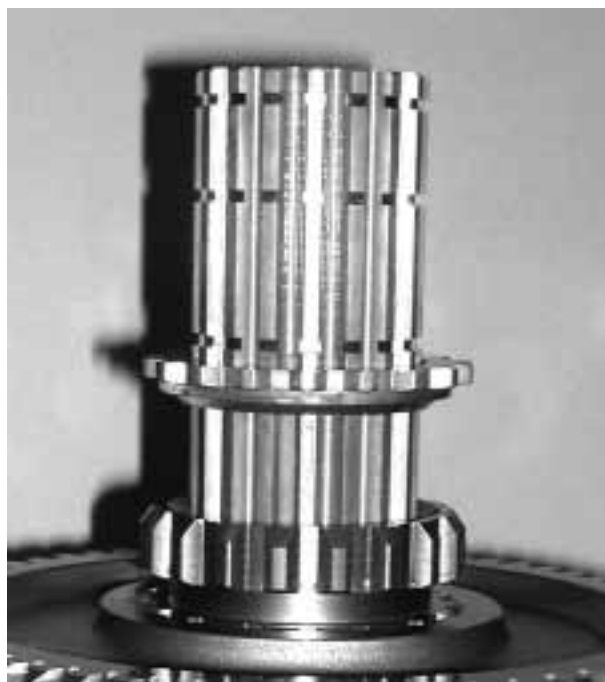

Figure 63 – Installation of Externally Splined Spacer Washer
- m.** Fit the externally splined spacer washer against the limit washer as shown in Figure 63.